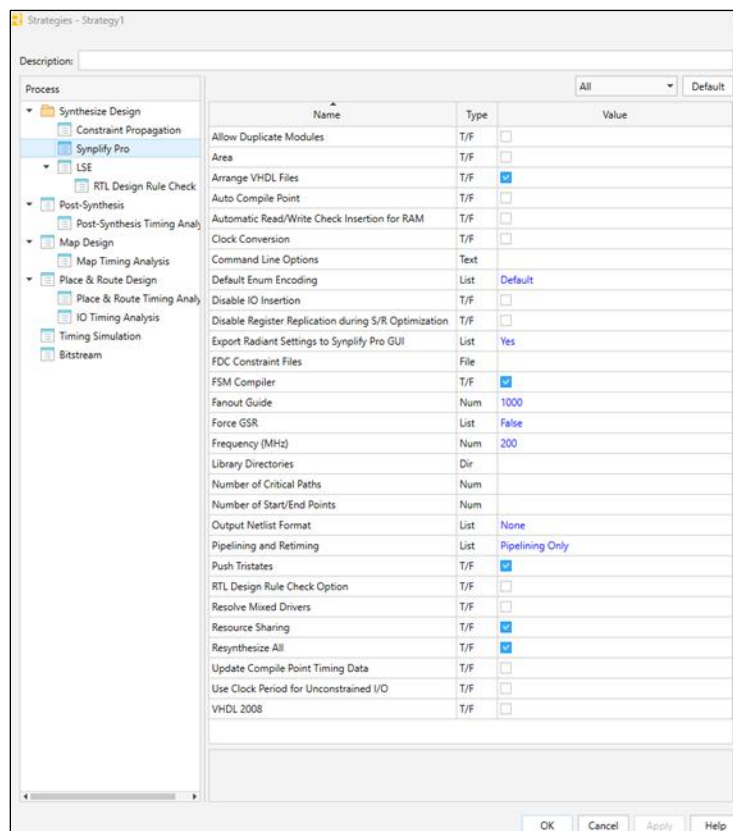
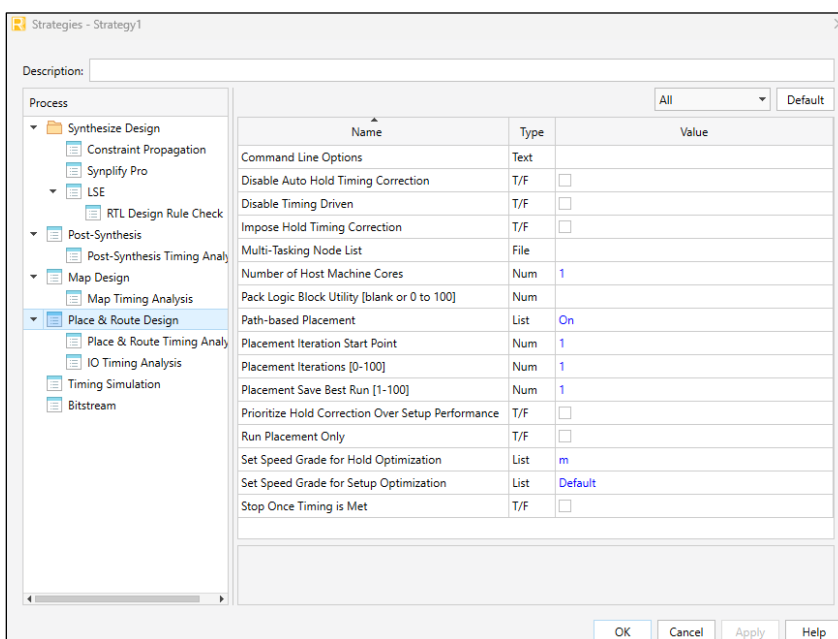

Figure 5.11. Synthesis Strategy Settings
Figure 5.12. Place and Route Design Strategy Settings
9. Set for the Synthesis strategy as shown in Figure 5.11 and the Place and Route design strategy as shown in Figure 5.12.